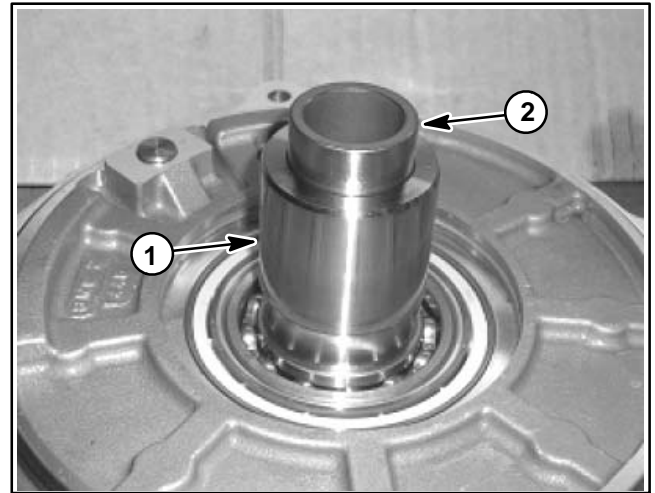

Figure 21
3. Press the new output hub/bearing assembly into the cover plate assembly. The bearing has a slight interference fit to the bore, so it should not take much force to install (Fig. 21). Take care to not damage the seal in the cover plate during installation of the hub assembly.